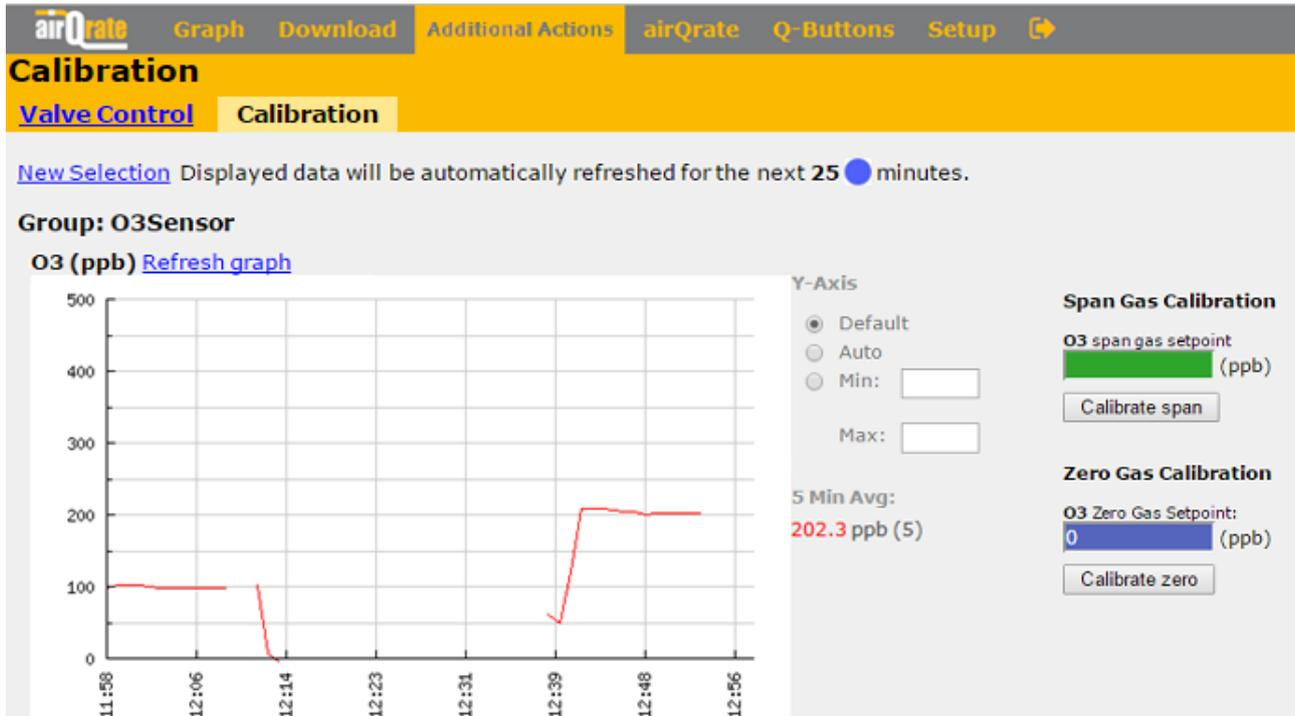

Figure 40: Ozone concentration displayed as a graph
6. Wait until the ozone concentration is perfectly stable for more than five minutes. Calibration is always based on the last 5-minute moving average (Figure 40).